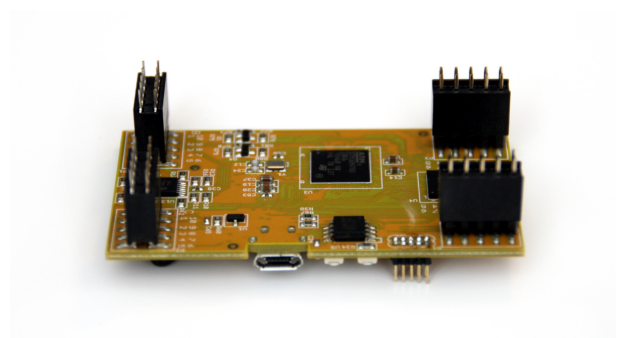

Figure 2: Connectors mounted on the submodule
1. Mount the four female 2×5 connectors on the pins of the Daisy Patch Submodule. See Figure 2.